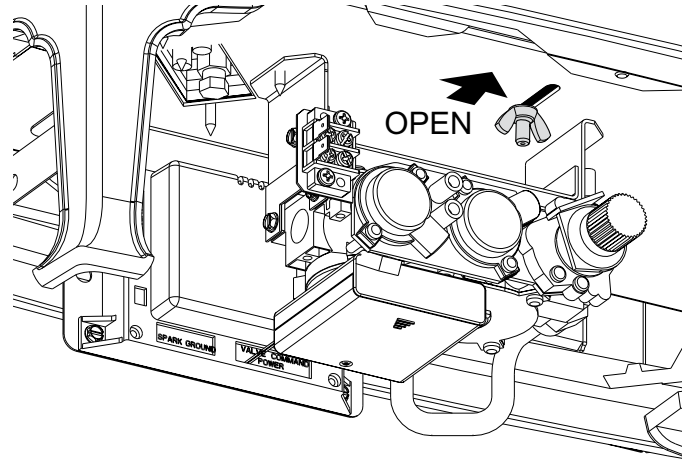

Figure 45.
1. Reach under the stove and loosen the wingnut. See fig. 45. Slide the wing nut stud forward to open the air shutter and back to provide less air. Make adjustments in 1/16" (1.5mm) increments.